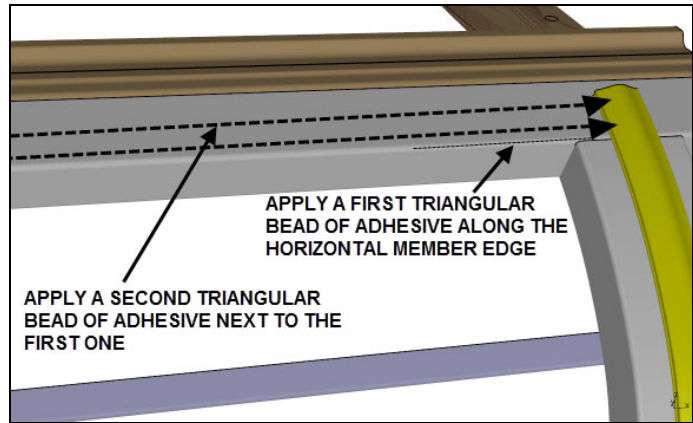

FIGURE 8
10. Apply two **continuous** triangular beads of adhesive on the upper horizontal member. Place the first bead along the edge of the horizontal member. Apply the second bead next to the first. R.H. and L.H. side vertical members (FIGURE 8).